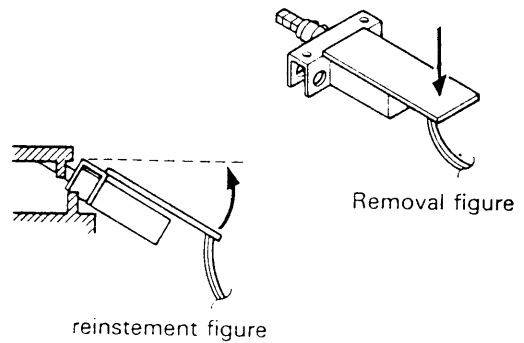

Fig. 6
- **Removal of Power Switch (See Fig. 6)**